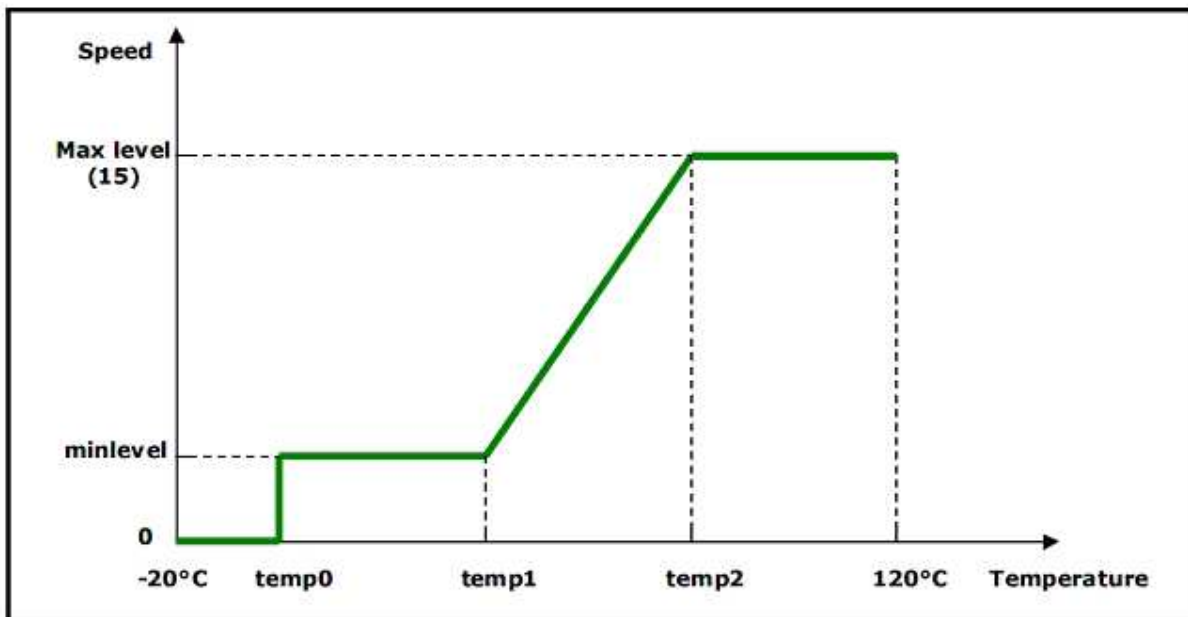

Figure 1: Fan Control Algorithm
- FIGURE 1: FAN CONTROL ALGORITHM 6